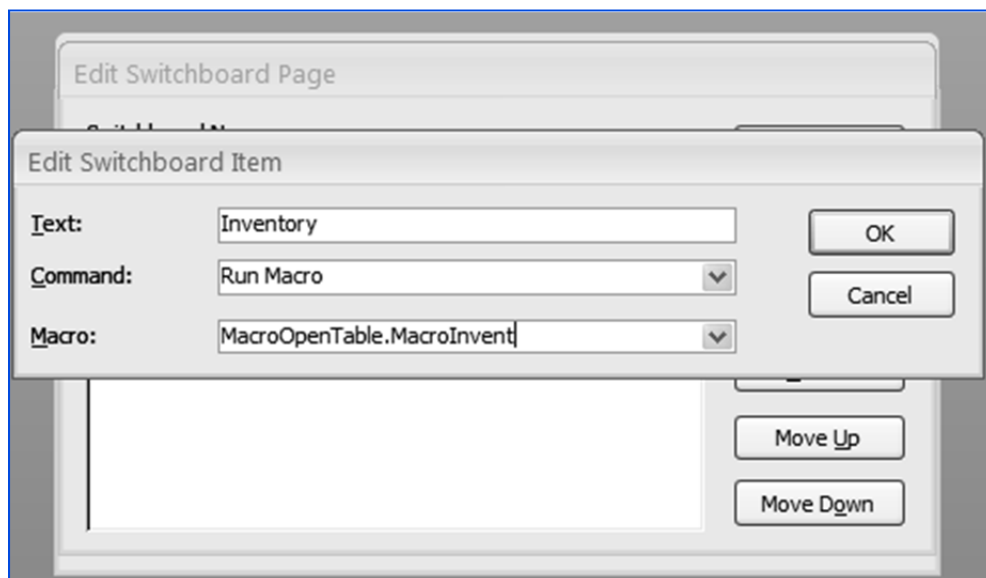

Fig. 4.3.11: Create Button Inventory
9. Repeat steps 4 - 8 to add another button to the form which opens the *Inventory* table. The final *Edit Switchboard* window appears, as shown in Fig. 4.3.11.